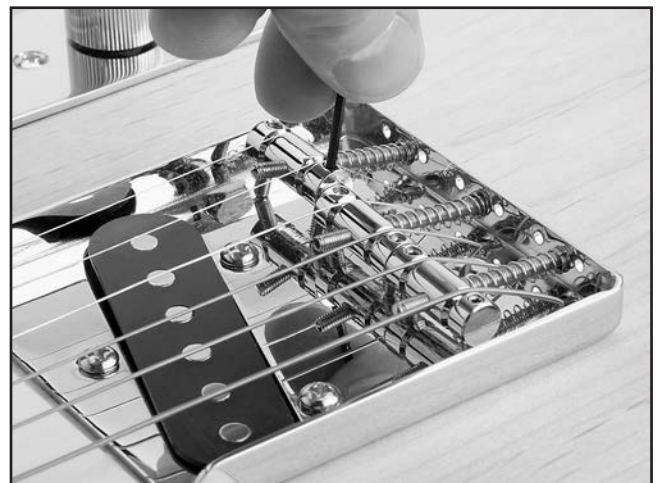

Figure 36. Adjusting string height.
3. Use the included 1.5mm hex wrench to adjust the saddle height setscrews (**Figure 36**) until the string heights are correct.